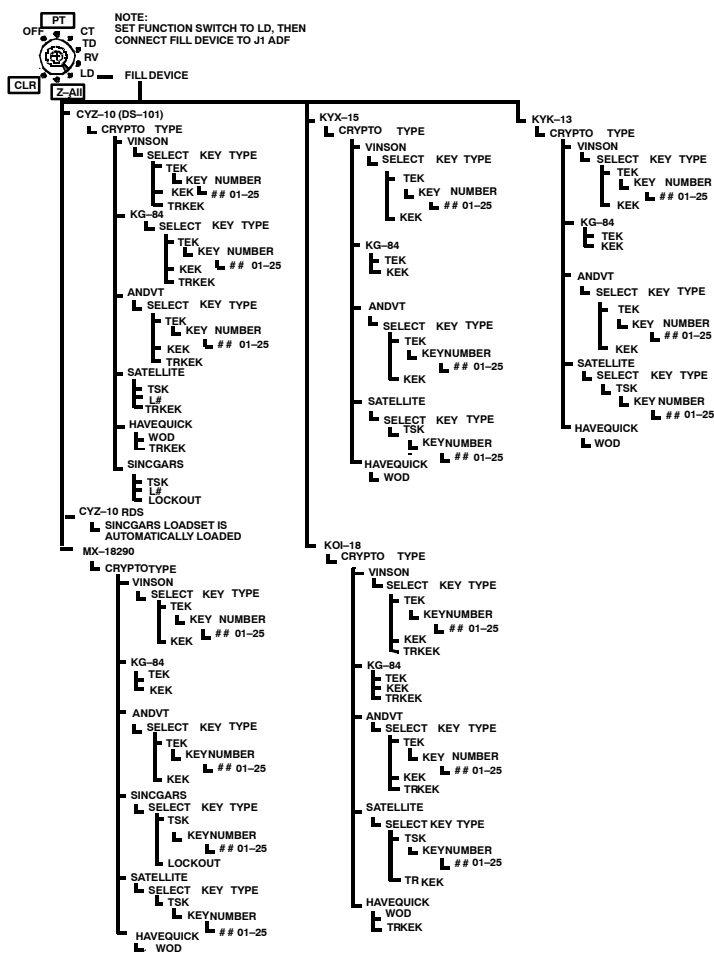

Figure 8. AN/PRC-117F COMSEC LOAD Menus
- a. Rotate function switch on AN/PRC-117F to **LD**. See Figure 8.